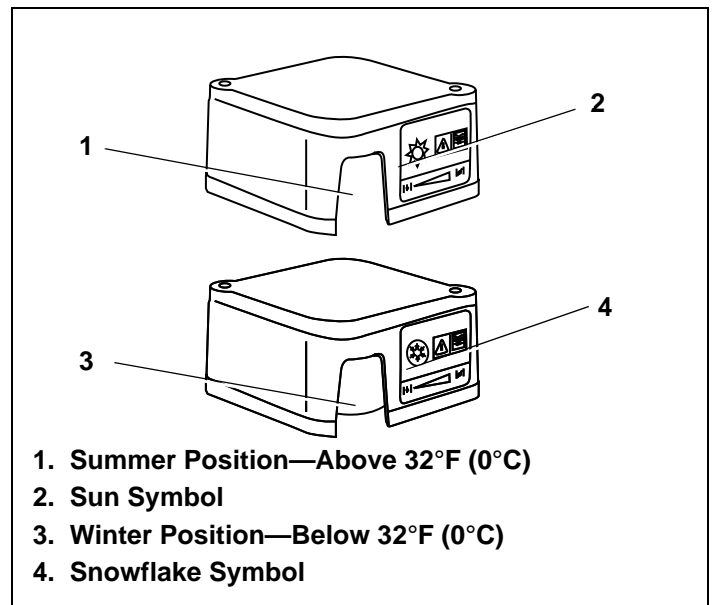

Figure 46. Air Cleaner Cover Positions
3. Rotate air cleaner cover in “WINTER” position shown. See Figure 46.
3. Rotate air cleaner cover in “SUMMER” position shown. See Figure 46.